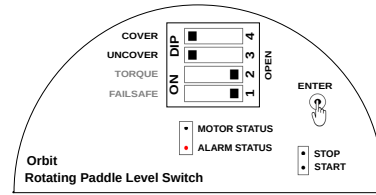

Figure 23: Setting RPM
- Press and hold ENTER key as shown in Figure 23. Blink the LED according to value of RPM.